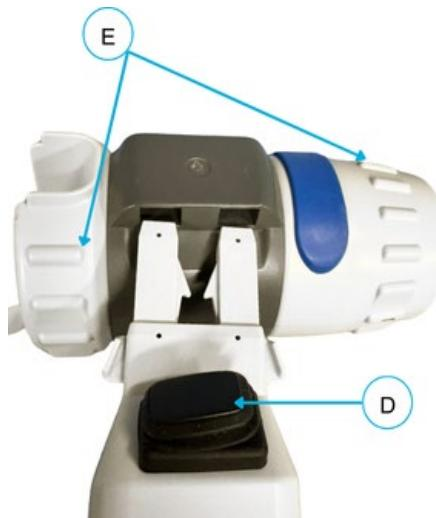

Figure 12-11: Delivery Device Rotating Members
1. Press the Stabilizer Power Switch (**D**) to allow movement of the Delivery Device Stabilizer Arm (**Figure 12-11**).
1. Rotate the Delivery Device using the light gray sections of the device body (**E**) to achieve the desired Needle delivery angle (**Figure 12-11**).
5. Press the Delivery Device **Stabilizer Power Switch (D)** (Figure 12-11) to relock the Stabilizer Arm in place.